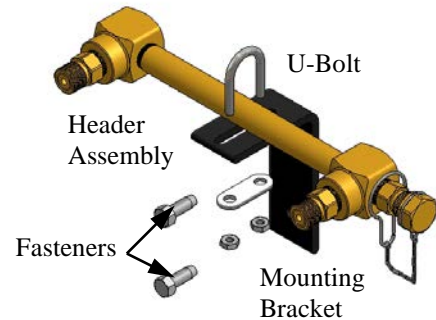

FIGURE 5
5. Mount the manifold by placing the header on the bracket. Fit the U-bolt over the header pipe and tighten the mounting nuts. (Figure 5)
6. Using a level, mark the placement of any additional mounting brackets while keeping the header on a horizontal plane. (Figure 5)
8. Mark the mounting hole and install fasteners suitable for type of wall construction. (Figure 5)